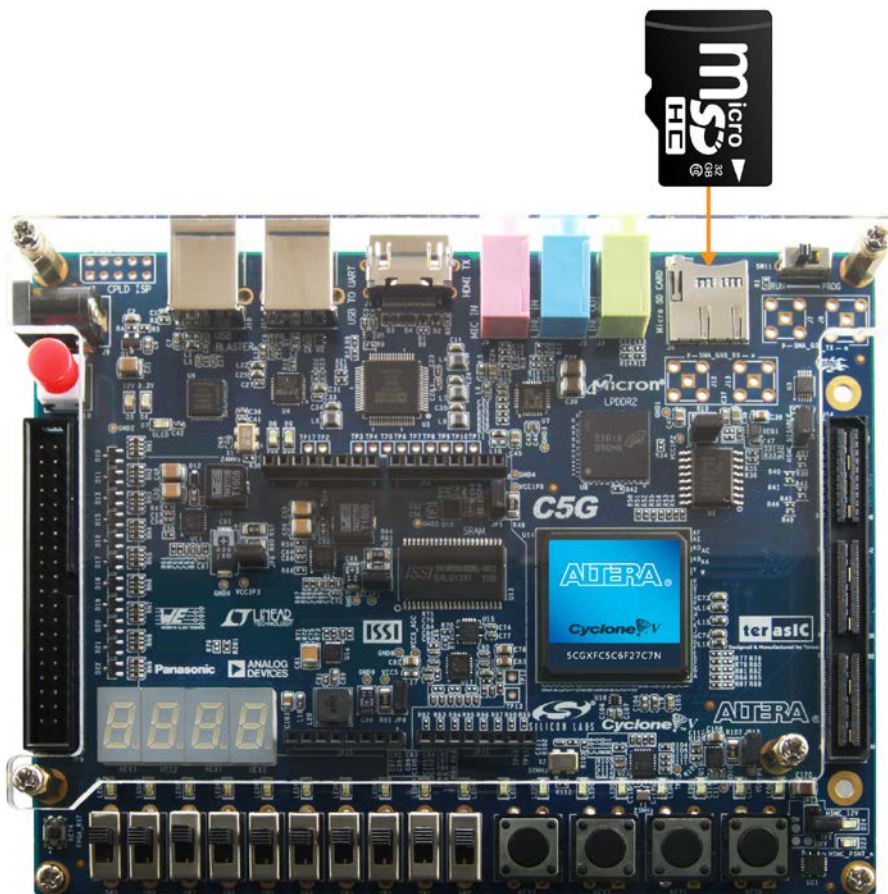

Figure 6-18 Insert the Micro SD card into C5G
- Insert the Micro SD Card into the SD Card socket of C5G, as shown in **Figure 6-18**